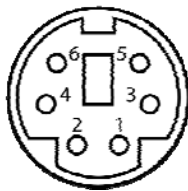

Figure 3-25: PS/2 Pinout and Configuration
- CN Pinouts: See Figure 3-25, Table 3-25